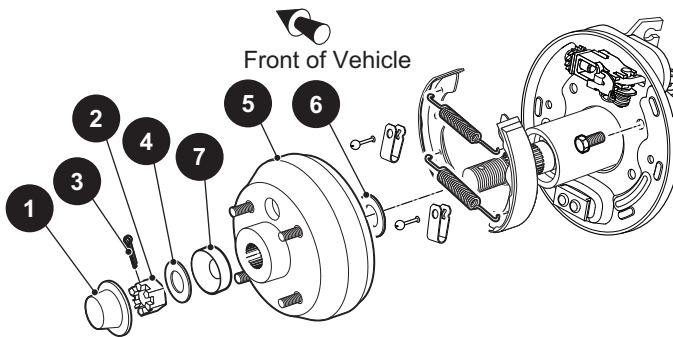

Figure 20 Brake Assembly
1. Remove the dust cap (1) to gain access to the castellated nut (2) and the cotter pin (3) (Figure 20).